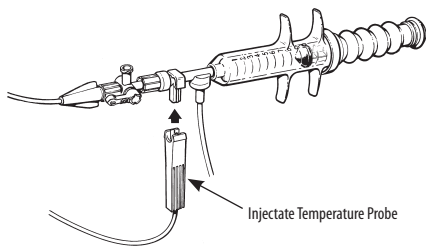

Figure 7. Temperature Probe Connection
2. Insert the injectate temperature probe into the flow-through/check valve until it snaps into place (See page 4, Fig. 7). Secure the system to minimize movement with respect to the patient.